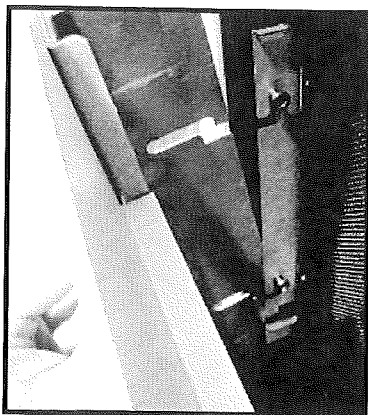

Figure 12. Install Front on Mounting Bracket
4. Install Tonic front as shown below. The mounting bracket on the Tonic door slide between the mesh brackets and the left and right side of the fireplace opening Fig 12 & 13.